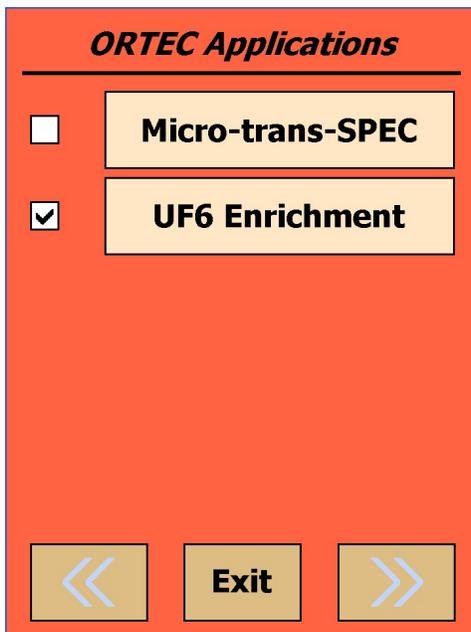

Figure 16. The Launcher Screen.
- After the computer initializes (this can take 1–2 minutes), the Launcher program will start up, displaying the **UF6 Enrichment** (Micro-UF6) and **Micro-trans-SPEC** applications (Fig. 16). If the Launcher does not start automatically, you will instead see the Microsoft® Windows® Mobile desktop. In this case, tap **Start** then **Launcher**.